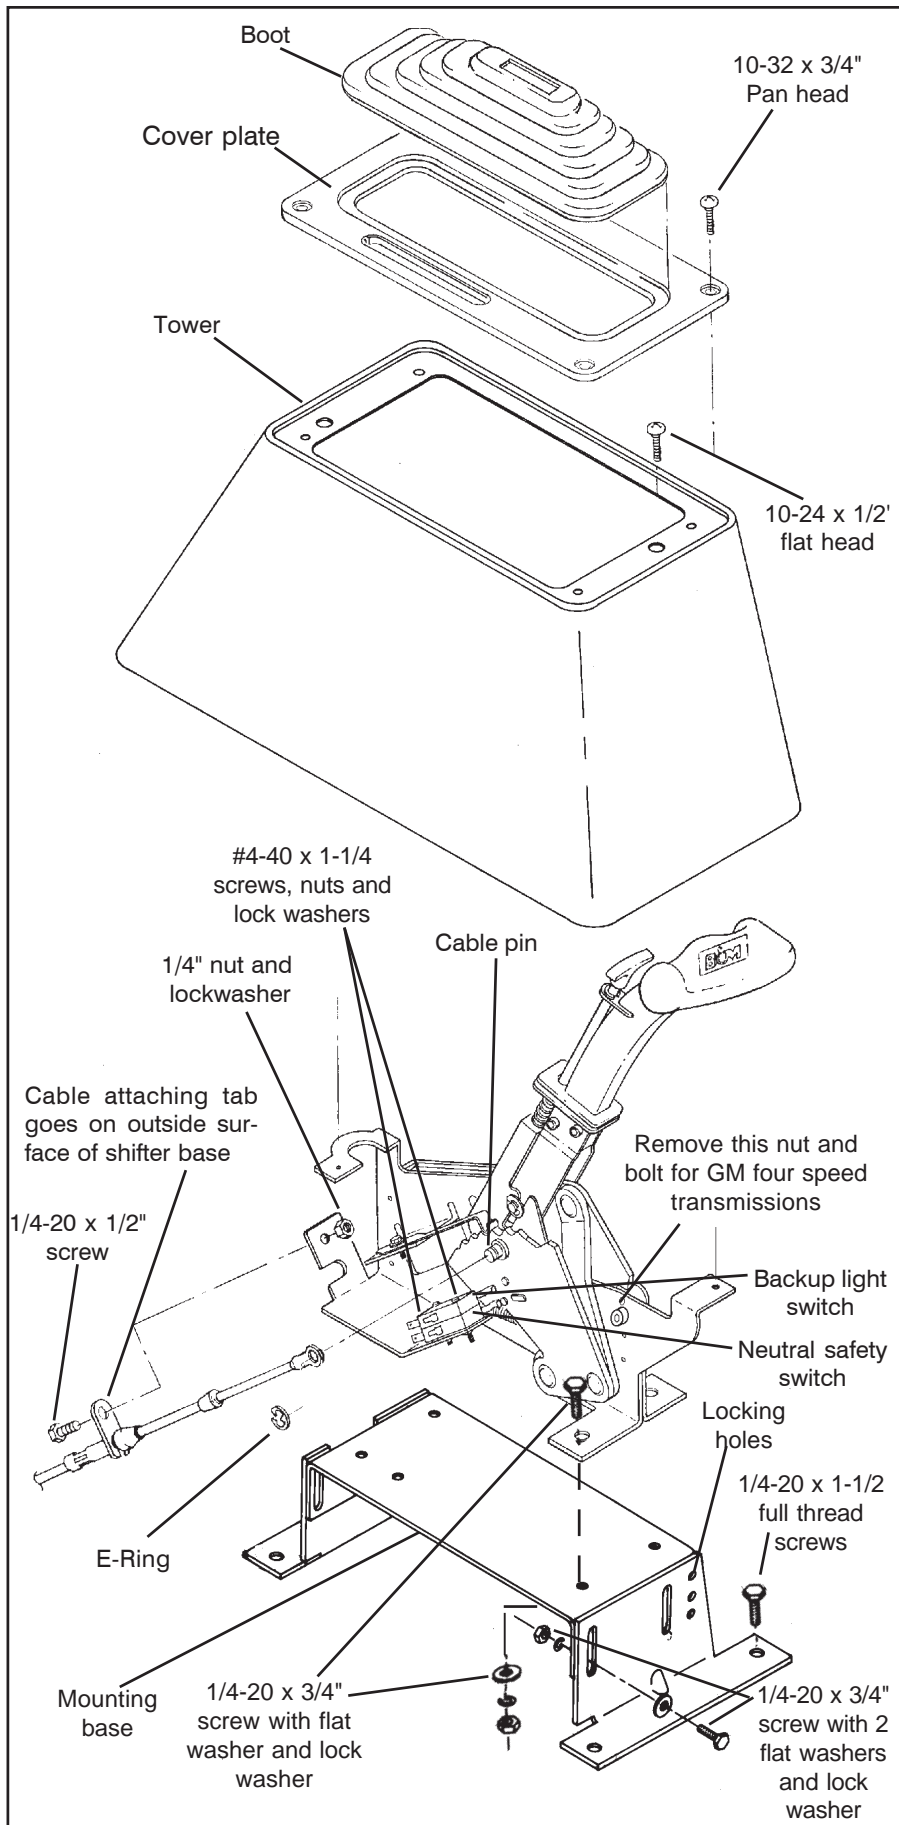

Figure 1
To use this shifter with a GM four speed automatic transmission (TH-700R4 or TH-200 4R) you will need to remove the three speed blocker bolt and nut. (See **figures 1 and 3.**) For the Ford AOD four speed transmission do **not** remove this bolt.
NOTE: If you are installing this shifter with a GM TH-700R4 or TH-200 4R four speed automatic transmission you must remove the bolt and nut indicated in **figures 1 and 3.** Removing this bolt gives the shifter four forward positions rather than three. For Ford AOD four speed transmissions do **not** remove this bolt and nut, since this transmission has only three forward positions. Also do **not** remove the bolt and nut for three speed automatic transmissions.
STEP 3. Assemble the mounting bracket as shown in **figure 1.** Be sure that the end plate with the wide slot on top is to the front and that the top plate has the three holes at the front. Assemble the bracket with the four 1/4-20 x 3/4" screws finger tight. Put a flat washers on both sides of the brackets and a lock washer under the nut.
STEP 7. Assemble Neutral Safety and Reverse light switches to bracket using two #4-40 x 1" screws and nuts, as shown in **figure 1**. **Beware**, Over tightening the switch attachment screws will crack the switch housings. Install Switch assembly on shifter. To adjust switches loosen screws and slide switches in or out as required, then retighten screws.
STEP 8. Install cable on shifter as shown in **figure 1**. The cable attachment tab should be bolted to the outside surface of the shifter base using 1/4" x 1/2" hex screw, lock washer and nut. Install the E-Ring that secures the cable to the cable pin.
On the C-4 and C-5 transmissions it is necessary to completely remove the stock Neutral safety/Backup light switch in order to install the **B&M** transmission shift lever. On C-4, C-5 and C-6 transmissions, it will be necessary to hook up the Neutral safety/Backup light switches on the **B&M Megashifter**. Locate and identify the Neutral safety (the engine will not crank unless these wires are connected together), and Reverse light wires. Disconnect Battery ground cable before beginning to wire the Neutral safety and Reverse light switches. Reroute the wires to the **B&M Megashifter**. Strip 1/4" insulation off wires and install supplied slip-on terminals. Crimp terminals onto wires using a crimping tool or pliers. Connect the Neutral safety wires to the **LOWER** switch and the Reverse light wires to the **UPPER** switch, See **figure 1**. Tape terminal connections to prevent shorts. Reconnect battery ground cable, disconnect coil wire and set the parking brake. Check switch operation by attempting to start motor in each shifter position. **The starter must crank only when shifter is in the Park or Neutral position.** Check Backup light operation when the shifter is shifted to the Reverse position. Adjust switches if required. Reconnect coil wire. Go to **Step 27**.
umn or console shifter. Run these wires to the top switch on the **B&M Megashifter**, See **figure 1**. Reconnect ground wire and check light for proper operation. Adjust switches on the shifter if required.
'66-'68: The Neutral safety switch will continue to function normally. It will not be necessary to hook up the Neutral safety switch wires on the shifter. Disconnect the battery ground cable before wiring the Backup light switch. Locate the original Backup Light switch on the steering column or console shifter. Run these wires to the top switch on the **B&M Light Truck Megashifter**, see **figure 1**. Reconnect ground wire and check light for proper operation. Adjust switches on the shifter if required.